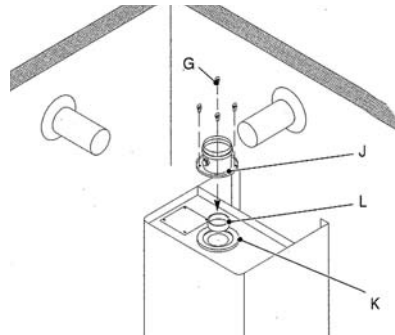

Figure 4
Mount the exhaust gasket (K) on the exhaust outlet of the boiler as shown in Figure 4. Install the appropriate flue restrictor ring (L) according to the table on page ?. Secure the Exhaust Collar (J) to the top of the boiler using the 4 screws (G) supplied.